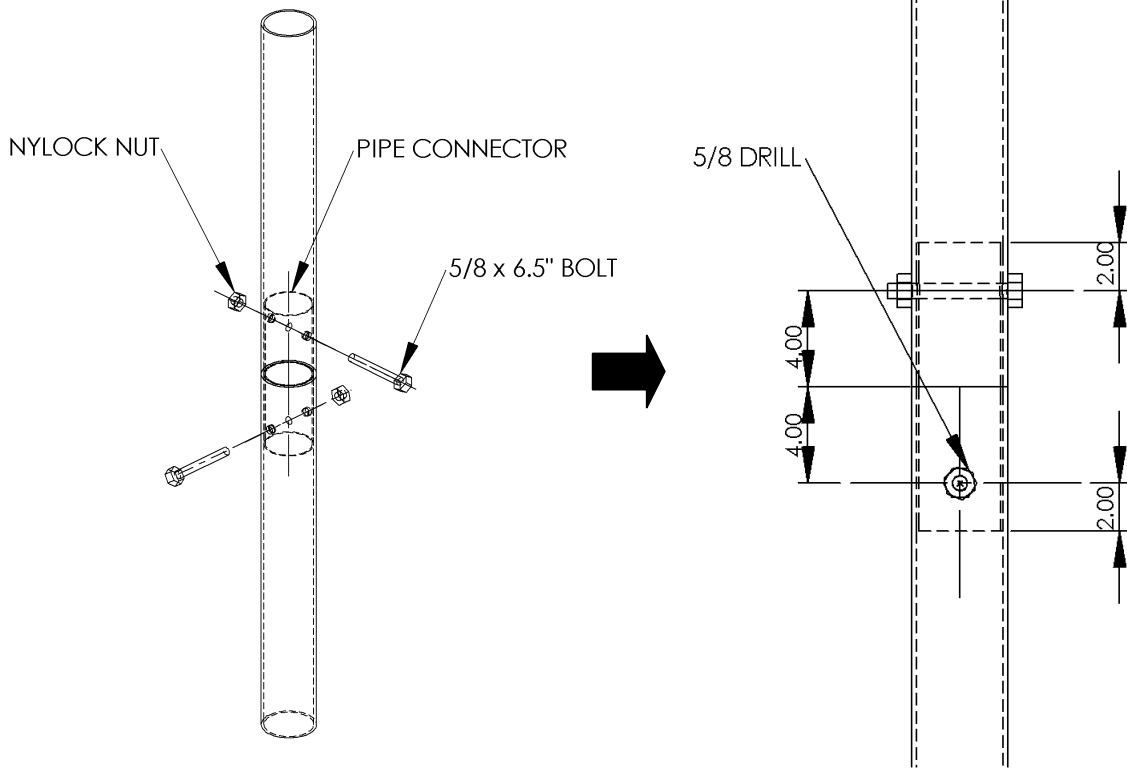

Figure 1.1
- Once the pipe inserts are secured in the pipe ends you are ready to drill the holes to hold the pipe insert bolts in place. Figure 1.1 describes the distance and the type of bolt used.